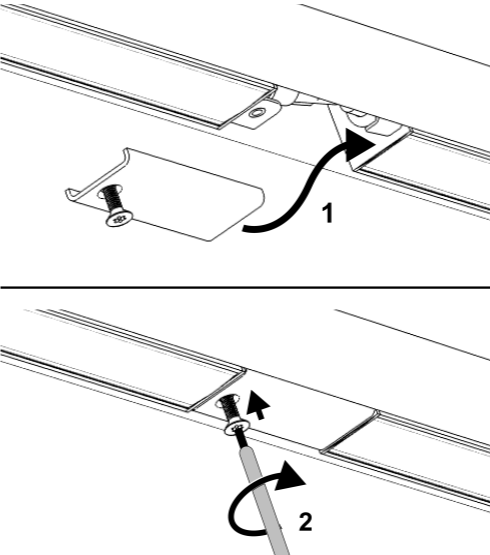

Figure 7: Installing groove cover
- Install groove cover (Figure 7).